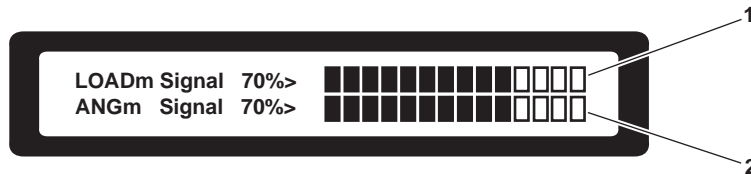

Figure 31. Signal Strength Display Screen
2. Access the transmitter(s) signal strength display screen (figure 31) by pressing the down arrow button (figure 17, item 4) on the LMI receiver panel (figure 17, item 2) twice while in the primary operating display screen (figure 25).
3. The transmitter signal strength display will indicate load cell signal strength (figure 31, item 1) and boom angle indicator signal strength (figure 31, item 2) as a percentage and as a bar graph display.